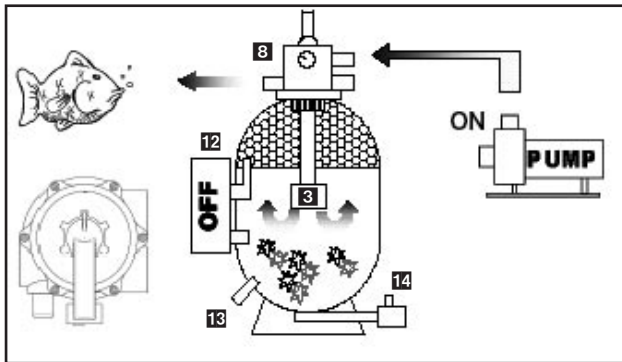

Figure 1
- Apply some Teflon tape around the pressure gauge (6) thread to guarantee a proper seal.
- Screw the pressure gauge (6) onto the 6 way valve (8).
3) Filter Starting (Fig. 1)